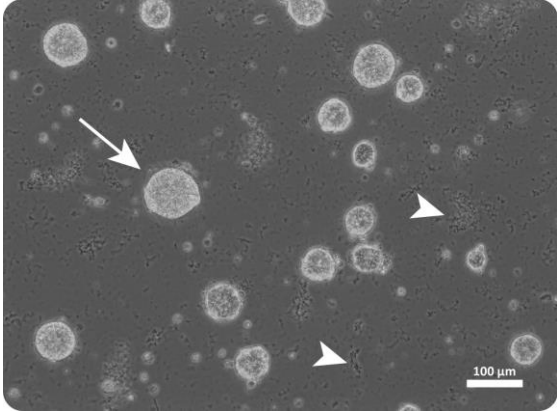

Figure 1. Human ES Cells Reverted to a Naïve-Like State
17. **Day 7+ or 8+:** Perform a full medium change every second day. Visually assess cultures to monitor growth; they are ready for passaging when colonies are 50 - 100 µm diameter. See Figure 1 for an image of ES cells reverted after one passage.